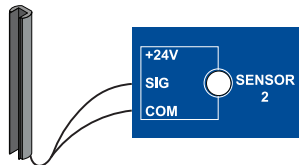

Figure 53. Sensor Connection
4. Install the wires into input Sensor #1, #2, or Input #1, #2, (not #3) on the SmartCNX controller (Figure 53). Make all COM connections ONLY to Sensor #1, #2. Make sure to connect to a Sensor COM port for switched common for monitoring purposes.